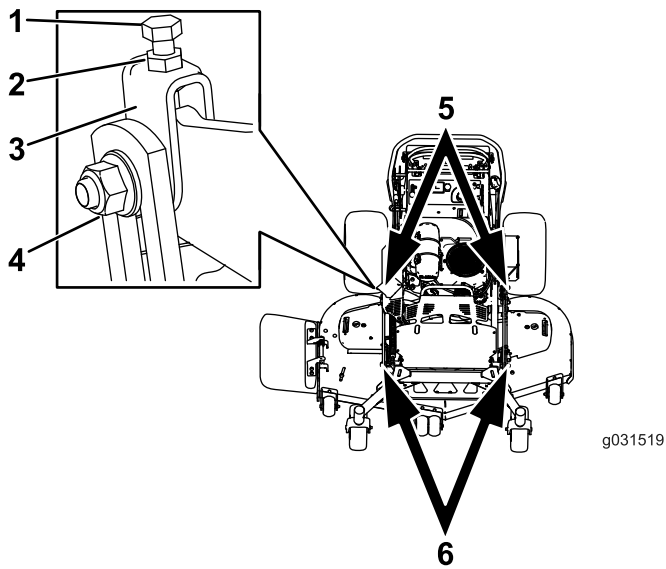

Figure 82
- Loosen the jam nut and side bolt in the yokes that you want to adjust (Figure 82).
5. If the measurement is not correct, locate the front 2 yokes on the machine (Figure 82).
2. Rotate the top bolt of the yokes to adjust the height of the mower deck (Figure 82).